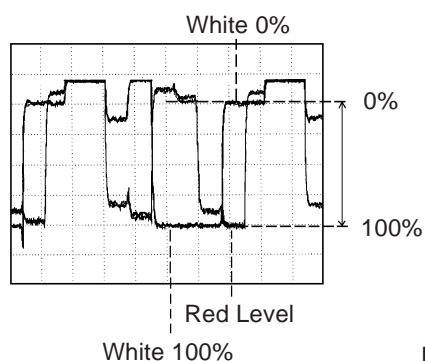

Fig. 2-8
7. Press the PLAY or STOP button on the remote control until the red color level is adjusted to 100% of the white level. (Refer to **Fig. 2-8**)